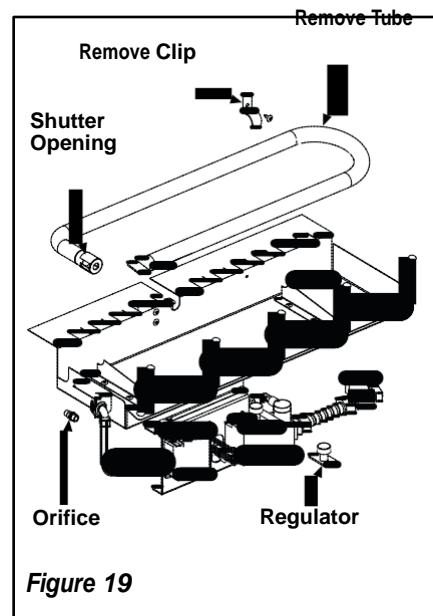

Figure 19
Step 3. Refer to **Figure 19**.
Step 6. (Refer to **Figure 19** on **Page 15**)
B. Retrieve the burner and slide the venturi tube over the orifice. Secure the burner in place with the clip shown in **Figure 19**.